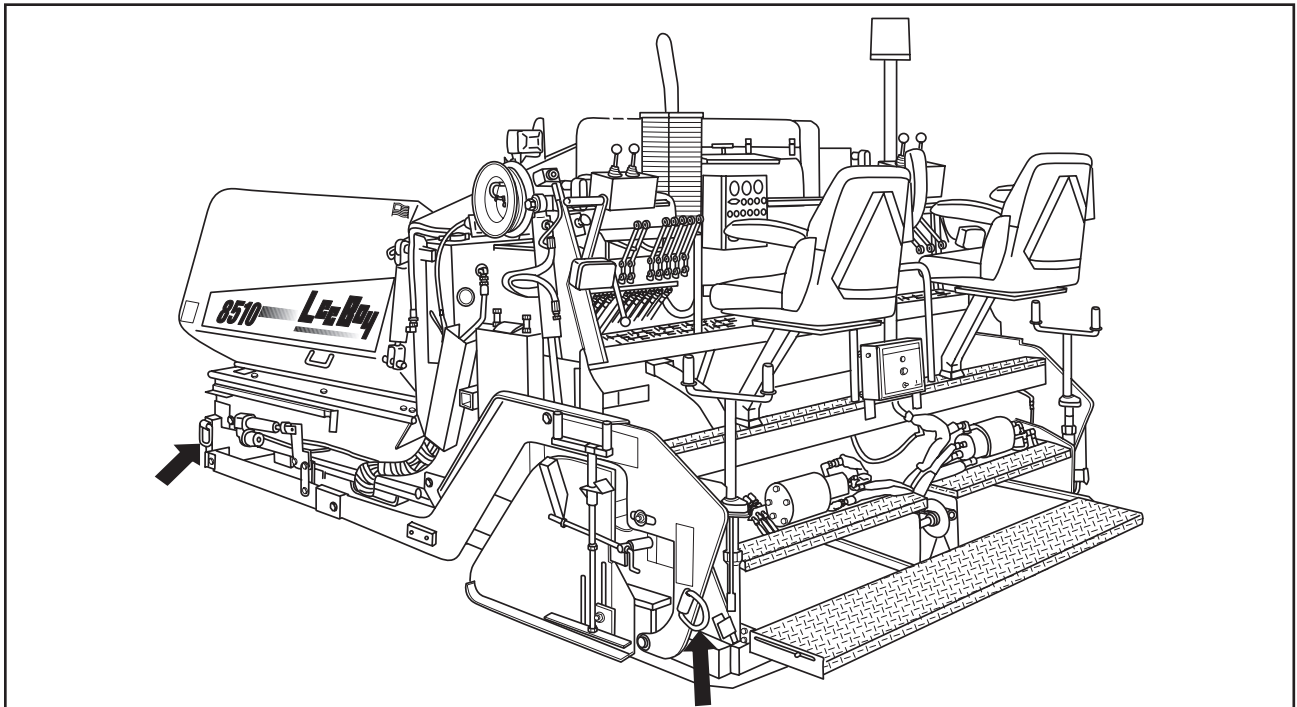

FIGURE 3-26. TIE DOWN POINTS
1. Attach tie down chains to the hopper end of Paver at the D-rings (see Figure 3-26).
2. Attach tie down chains to the screed end of Paver at the D-rings (see Figure 3-26).